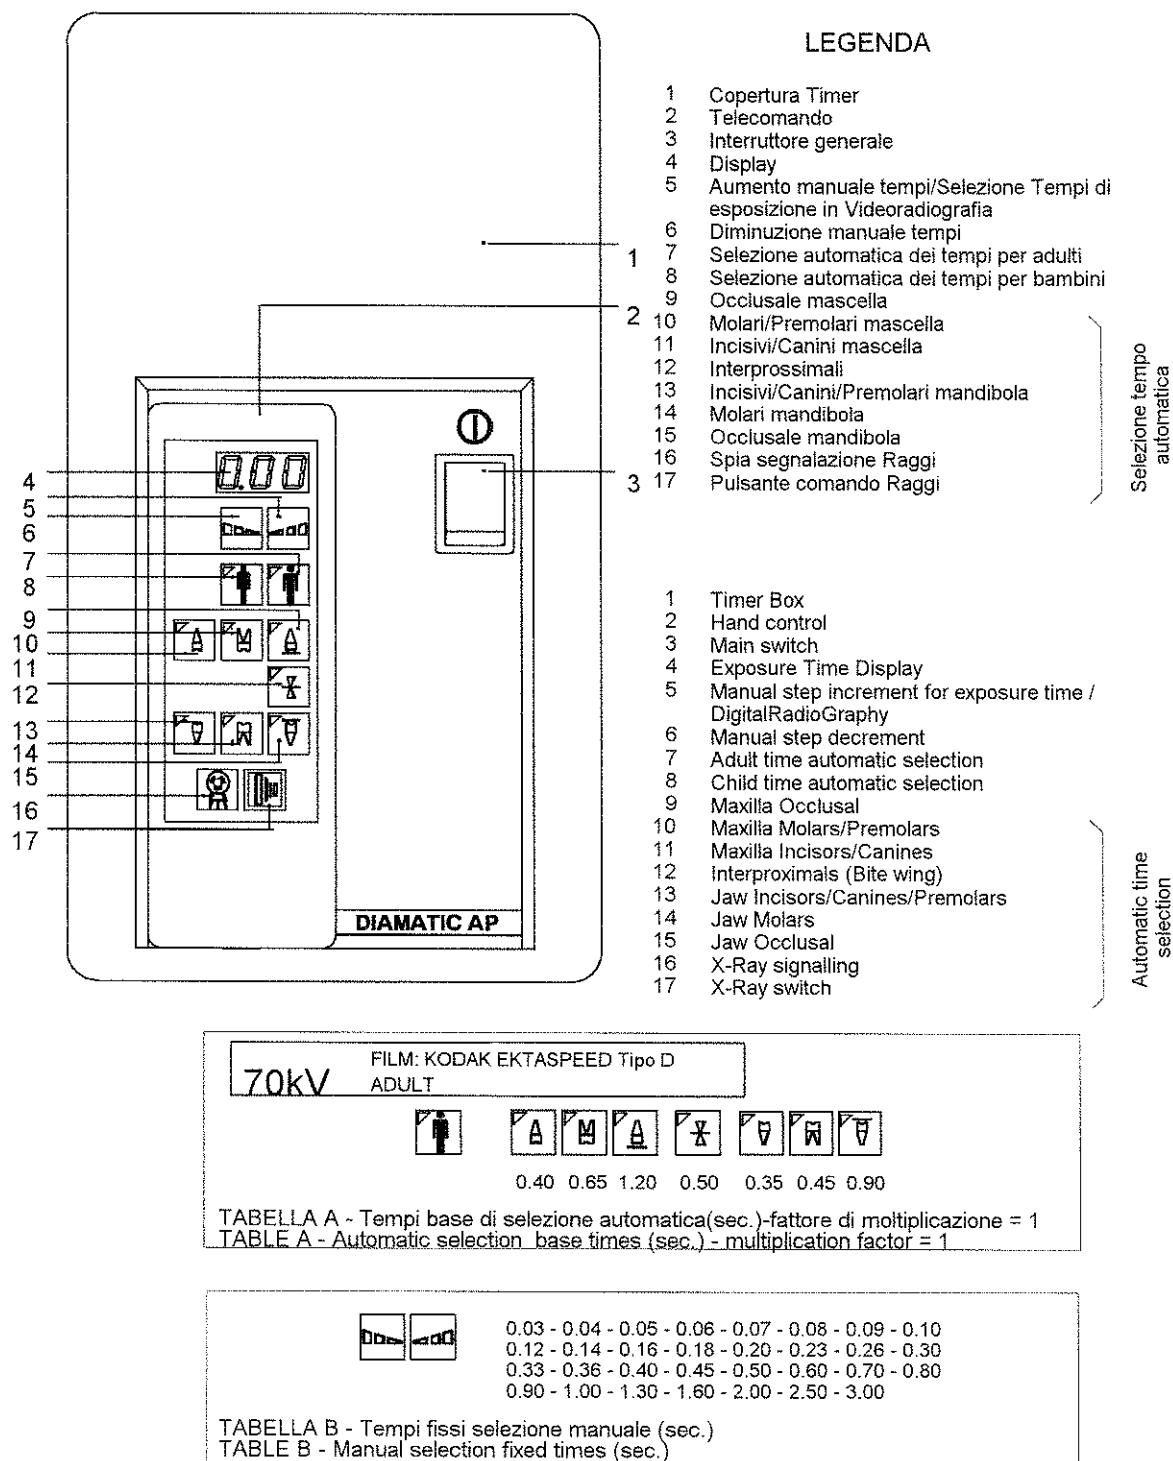

Figure 6-23
1. Put network switch (3) on **ON** position and check that light on the switch turns on and that hand remote control is set on automatic function selection mode for keys 7 and 11 (the relevant LEDs are on).
2. Check correct functioning in automatic mode by pressing function selection keys 7 to 15 in sequence (the relevant LEDs turn on); the display will visualize the relevant basic exposure times (see Table A on Fig. 6-23).
3. Select manual function by pressing keys 5 (increase) and 6 (decrease) and check that display visualizes the different manual exposure times (see Table B on Fig. 6-23).